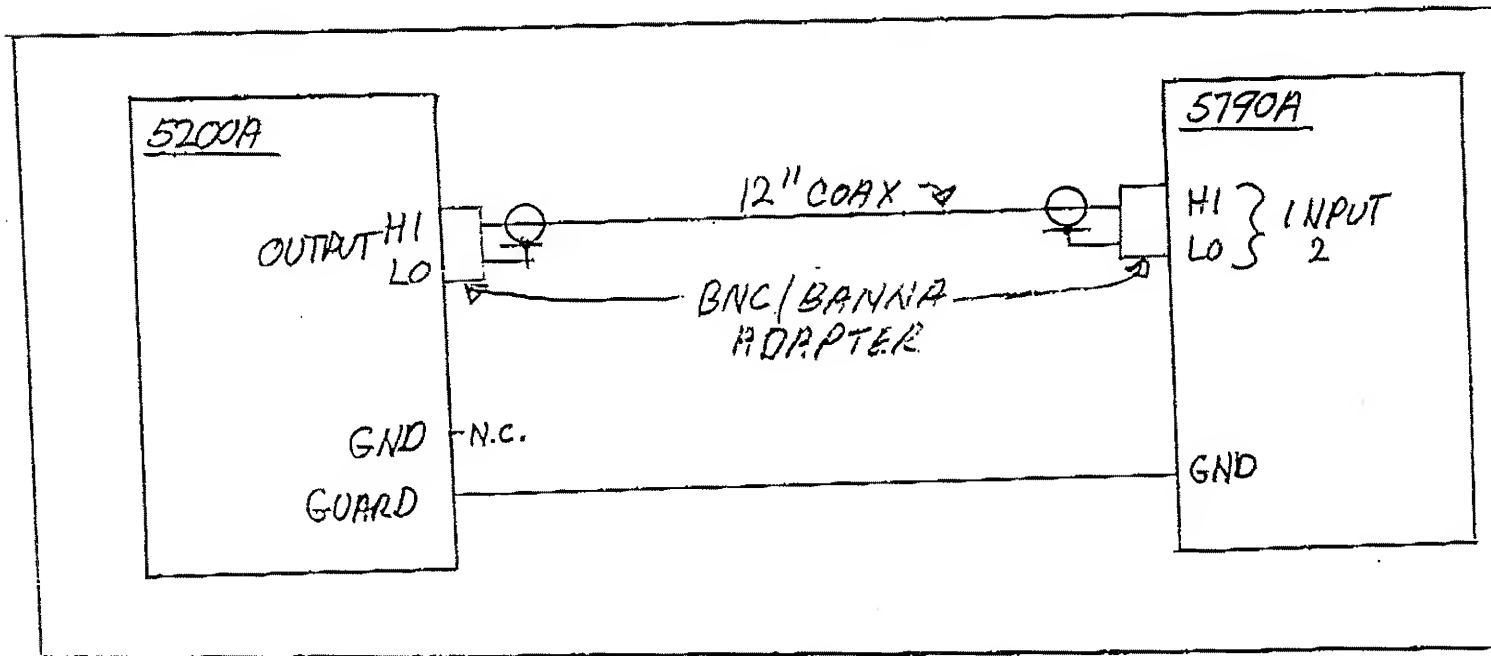

FIGURE 4-3b 100 mV OUTPUT ACCURACY
- a. Connect the equipment as shown in Figure 4-3b.